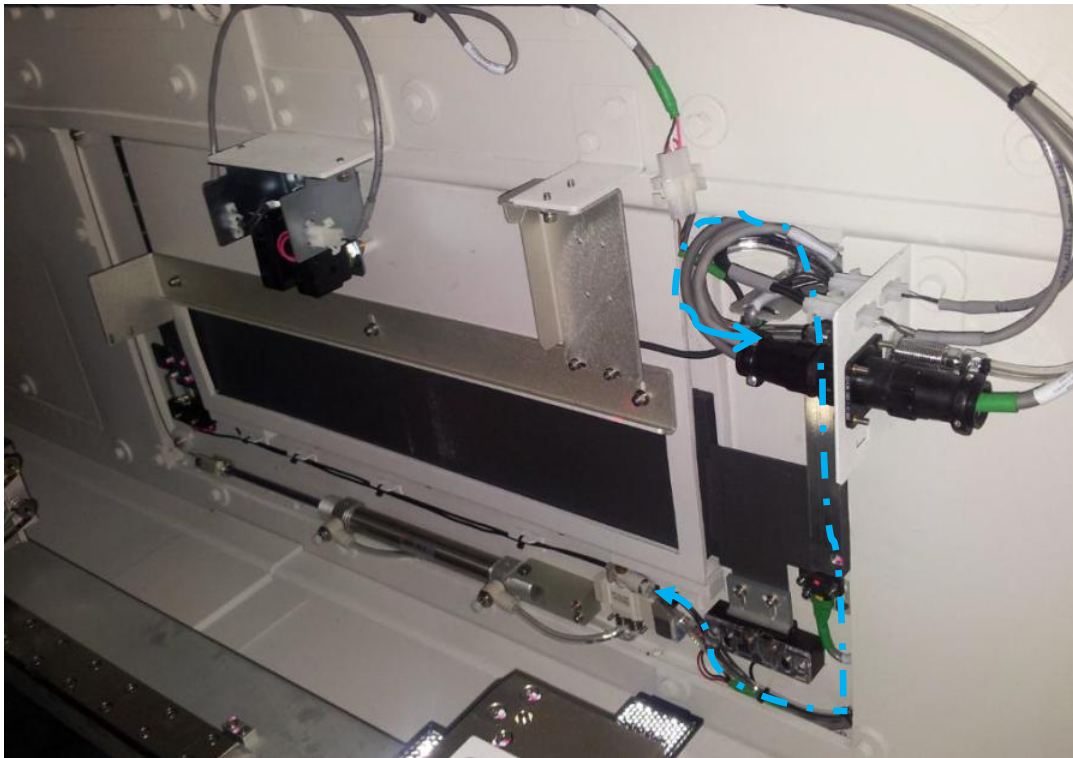

Figure 17
19. Gently route the entire tubing by refer to below route (Blue Highlight). Press & lock the Parker Clip Fitting. May refer to below Figure 17 & 18. Apply necessary cable ties to secure the tubing.